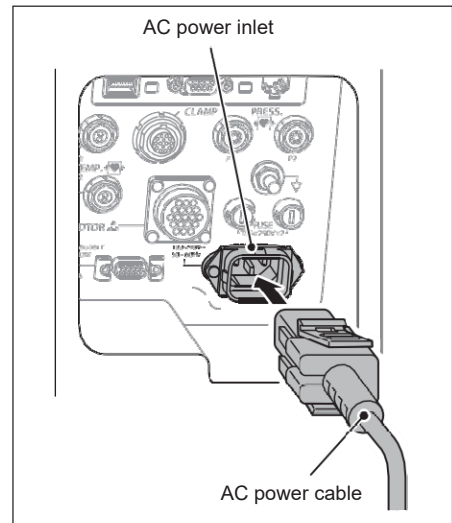

Figure 1-5
1. Insert the AC power cable into the AC power inlet until you hear a click. (Figure 1-5)